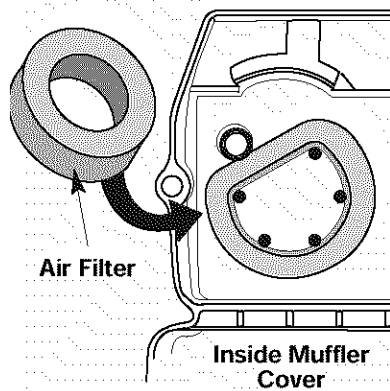

Fig. 23
- Turn cover over and look inside to locate the air filter. Remove the air filter from inside the air filter/muffler cover (Fig. 23).
6. Replace the air filter inside the air filter/muffler cover (Fig. 23).